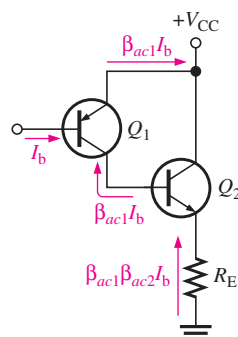

FIGURE 6–30
The current gain for the emitter-follower in Figure 6–25 is
Related Problem If R_L in Figure 6–27 is decreased in value, does power gain to the load increase or decrease?
One way to boost input resistance is to use a **Darlington pair**, as shown in Figure 6–28. The collectors of two transistors are connected, and the emitter of the first drives the base of the second. This configuration achieves β_{ac} multiplication as shown in the following steps. The emitter current of the first transistor is
◀ **FIGURE 6–28**
An emitter-follower using a Darlington pair can be used to interface the amplifier and the speaker, as shown in Figure 6–29.
The circuit arrangement in Figure 6–29 is useful for low-power applications ($<1\text{ W}$ load power) but is inefficient and wasteful for higher power requirements.
► FIGURE 6–29
In Figure 6–29 for the common-emitter amplifier, $V_{CC} = 12\text{ V}$, $R_C = 1.0\text{ k}\Omega$ and $r'_e = 5\text{ }\Omega$. For the Darlington emitter-follower, $R_1 = 10\text{ k}\Omega$, $R_2 = 22\text{ k}\Omega$, $R_E = 22\text{ }\Omega$, $R_L = 8\text{ }\Omega$, $V_{CC} = 12\text{ V}$, and $\beta_{DC} = \beta_{ac} = 100$ for each transistor. Neglect $R_{IN(BASE)}$ of the Darlington.
Using the same circuit values, determine the voltage gain of the common-emitter amplifier in Figure 6–29 if a single transistor is used in the emitter-follower in place of the Darlington pair. Assume $\beta_{DC} = \beta_{ac} = 100$. Explain the difference in the voltage gain without the Darlington pair.
The **Sziklai pair**, shown in Figure 6–30, is similar to the Darlington pair except that it consists of two types of transistors, an *npn* and a *pnp*. This configuration is sometimes
Find the input resistance, voltage gain, current gain, and power gain for the amplifier in Figure 6–32. $\beta_{DC} = 250$.
► **FIGURE 6–32**
Related Problem Find A_v in Figure 6–32 if $\beta_{DC} = 50$.